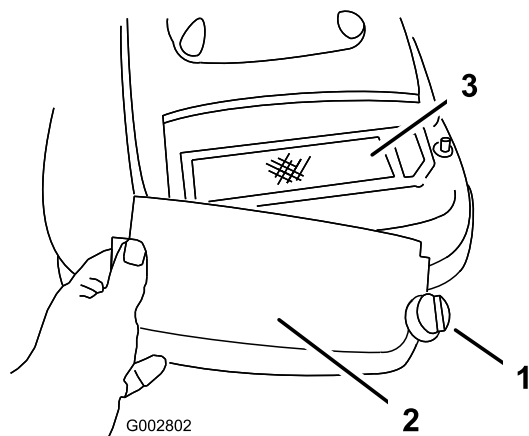

Figure 22
3. Remove the screw that secures the air cleaner cover (Figure 22).
4. Remove the cover and clean it thoroughly (Figure 22).